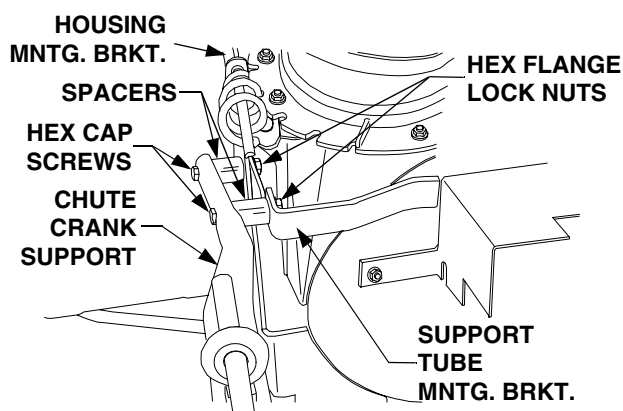

Figure 3
1. Insert the two hex cap screws (1) through the holes at the forward end of the chute crank support assembly (D), then slide a spacer (3) onto each cap screw (1). See Figure 3.
2. Position the chute crank support tube (D) to insert the screws (1) into the holes of the support tube mntg. bracket and the housing mntg. bracket on the left rear of the snow thrower housing. Secure with the hex flange lock nuts (2). Refer to Figure 3.